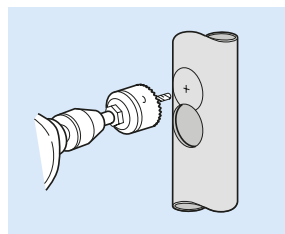

Fig. 51
- Drill two overlapping holes of correct size at 45mm centres (Fig. 51).